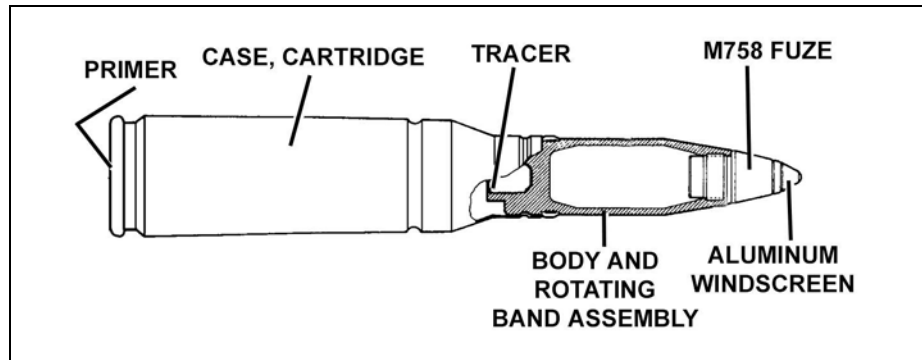

Figure 2-9. M792 HEI-T.
(1) The APDS-T is a fixed-type, percussion, primed round. It consists of a sabot-encapsulated projectile body crimped to a steel cartridge case. The projectile body consists of a solid tungsten alloy penetrator, pressed-on aluminum windscreen, pressed-in tracer pellets, molded discarding-type nylon sabot, staked aluminum base, and welded or pressed-on nylon nose-cap. The projectile sabot and nose-cap are black with white markings.
(2) Gasses produced by the burning propellant send the projectile from the gun at 1,345 meters per second (plus or minus 20 meters per second) and ignite the tracer. Setback, centrifugal, and aerodynamic forces cause both the sabot and nose-cap to discard as soon as the round leaves the barrel. The tungsten alloy penetrator (core) is spin-stabilized and penetrates the target solely by kinetic energy.
(3) The maximum effective range is 2,000 meters due to tracer burnout. Although its tracer burns out at 2,000 meters, an APDS-T round is accurate out to 2,200 meters. As the range increases, the APDS-T penetration decreases, especially when target vehicles have appliqué armor (an added layer of armor).
b. **M792 High-Explosive Incendiary with Tracer.** The HEI-T (Figure 2-9) can destroy unarmored vehicles and helicopters and suppress antitank guided missile (ATGM) positions and enemy squads beyond coax range (900 meters) and out to a maximum effective range of 3,000 meters.